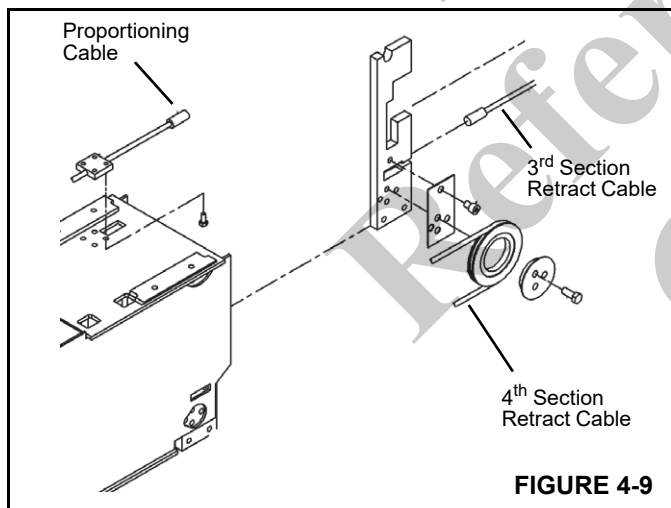

FIGURE 4-9
1. Uncoil 3rd section retract cable assemblies and insert the button end into the cable anchor pockets in the rear of the 3rd section. Install the keeper plate over the cable end (Figure 4-9).
- d. Place the uncoiled cable in a safe area to prevent damage (Figure 4-9).